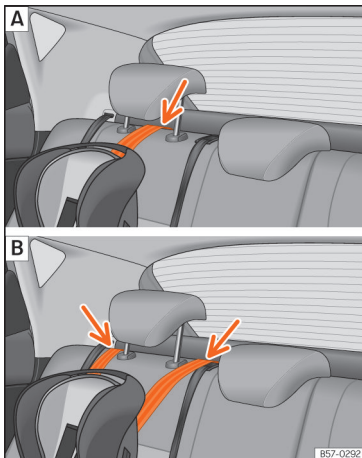

Fig. 37 Retainer strap: adjustment and assembly according to the Top Tether belt.
- Place the belt under the head restraint of the back seat »» Fig. 37 (depending on the instructions of the chair itself, lift or remove the head restraint if necessary).